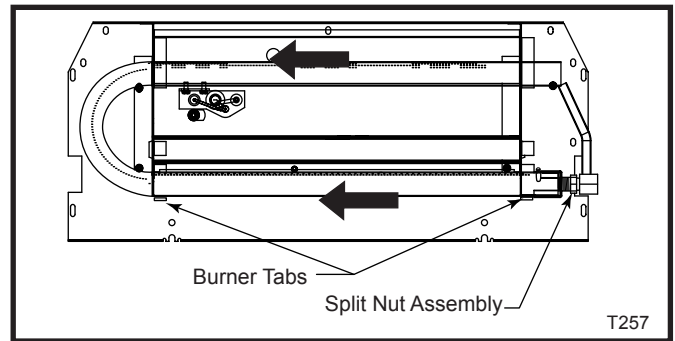

Fig. 44 Bend tabs down, loosen split nut assembly and slide burner tube to the left.
1. Remove the two (2) screws holding the pilot to the burner bracket.
3. Use screwdriver and bend burner tabs outward. (Fig. 44)
4. Loosen the split nut assembly to remove from burner/air shutter. Slide burner tube to the left and off burner orifice. (Fig. 44)